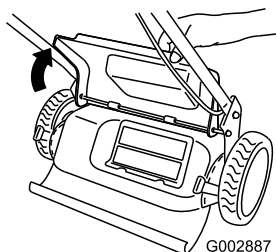

Figure 24
4. Raise and hold up the rear door (Figure 24).